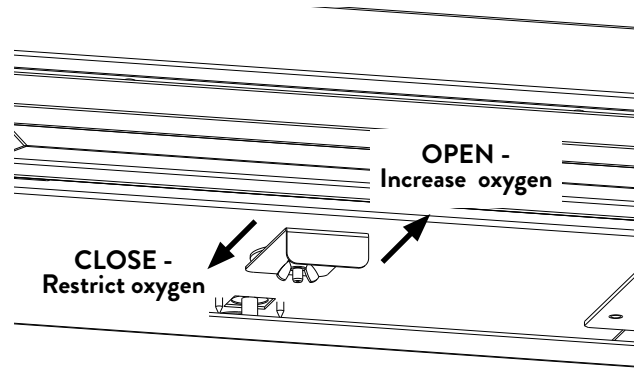

Figure 13.1.
1. Loosen the wing nut shown in fig. 13.1. Slide the Air Shutter Handle forward toward yourself to open the air shutter and back to provide less air. Before making any adjustments, start at the mid-point of the total range of adjustment.